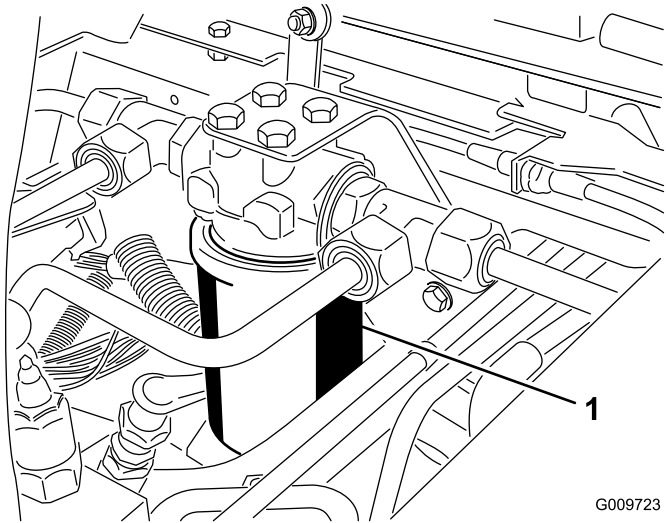
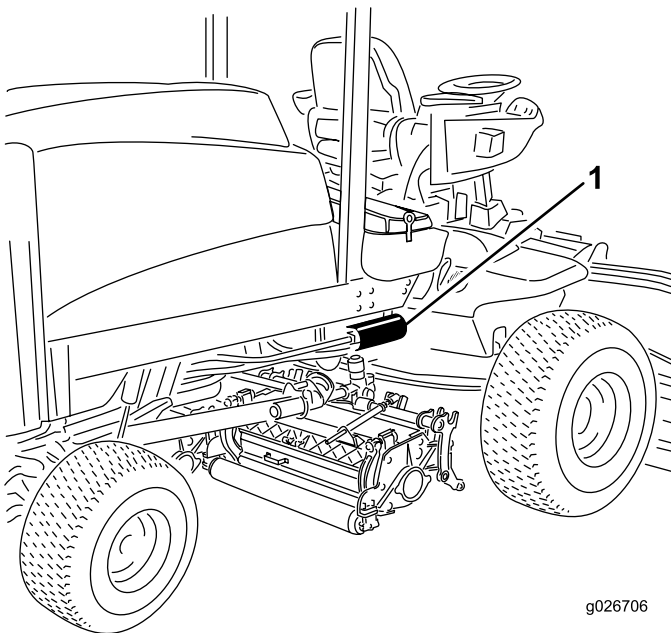

Figure 101
Figure 102
3. Place a drain pan under the filter and remove the filter (Figure 101 and Figure 102).